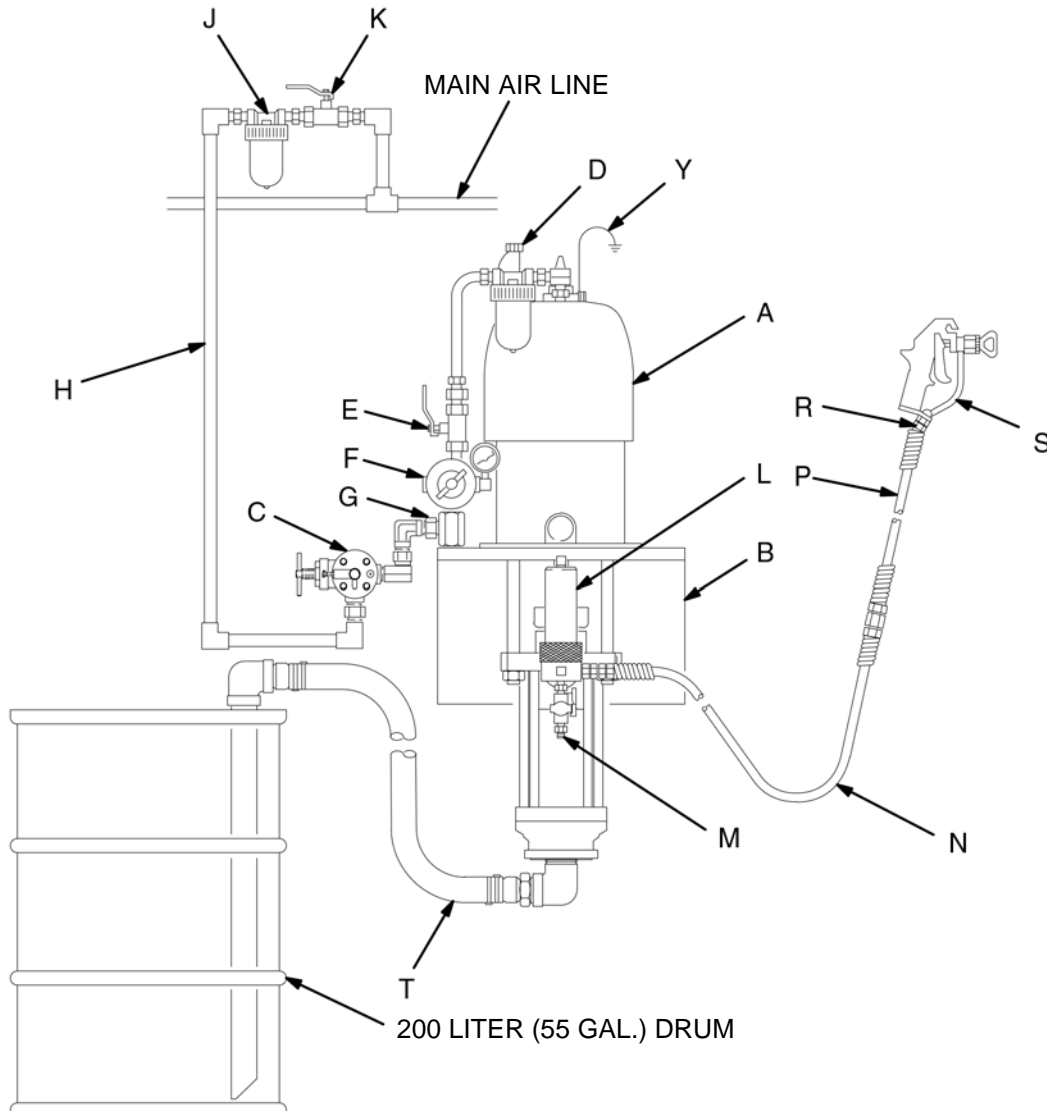

Fig.4
Fig. 4 is only a guide for selecting and installing system components and accessories. Contact your Graco distributor for assistance in designing a system to suit your particular needs.
Mount the pump (A) to suit the type of installation planned. Fig. 4 illustrates a wall-mounted system. Pump dimensions and the mounting hole layout are shown on pages 38 and 39.
Install the following accessories in the order shown in Fig. 4, using adapters as necessary:
Install the following accessories in the positions shown in Fig. 4, using adapters as necessary:
- A fluid filter (L) with a 60 mesh (250 micron) stainless steel element, to filter particles from the fluid as it leaves the pump. It includes a **fluid drain valve (M)**, which is required in your system to relieve fluid pressure in the hose and gun (see the **WARNING** at left).
- A gun or valve (S) dispenses the fluid. The gun shown in Fig. 4 is an airless spray gun for light to medium viscosity fluids.
- A gun swivel (R) allows freer gun movement.
- A suction kit (T) allows the pump to draw fluid from a 200 liter (55 gallon) drum.